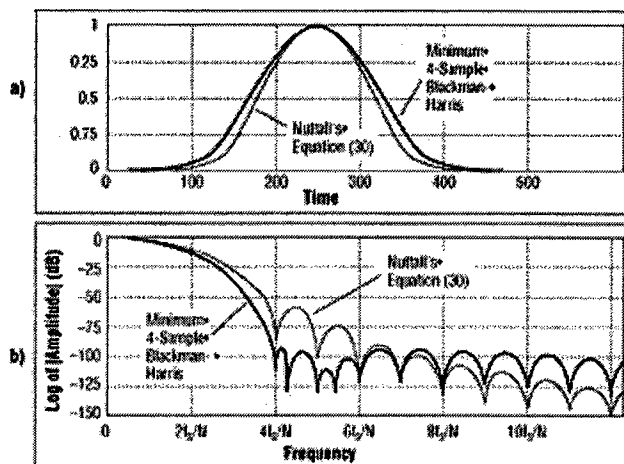

Figure 8. a) Two high-performance window functions greatly reduce
When Nuttall set the a_k coefficients to the "minimum 4-term" values of $a_0 = 0.355768$, $a_1 = 0.487396$, $a_2 = 0.144231$, $a_3 = 0.012604$, he obtained the window and the frequency response shown in **Figure 8**. The minimum-4-term window loses resolution because it has a wide main lobe, but the first side lobe drops to -93 db.
If you require fast side-lobe rolloff in an application, consider Nuttall's Equation (30). It applies the following coefficient equation above: $a_0 = 10/32$, $a_1 = 15/32$, $a_2 = 6/32$, and $a_3 = 1/32$. Figure 8 also includes the window and frequency Equation (30). This window has a first side-lobe level of -61 dB and a significant side-lobe rolloff of -42 dB/octave.